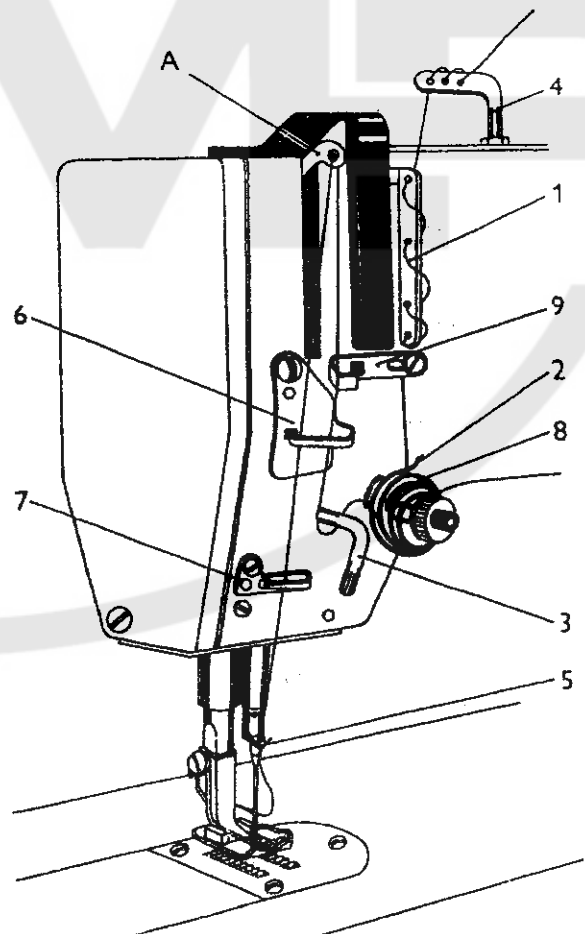

Fig. 4
8. To thread the upper thread (Fig. 4)